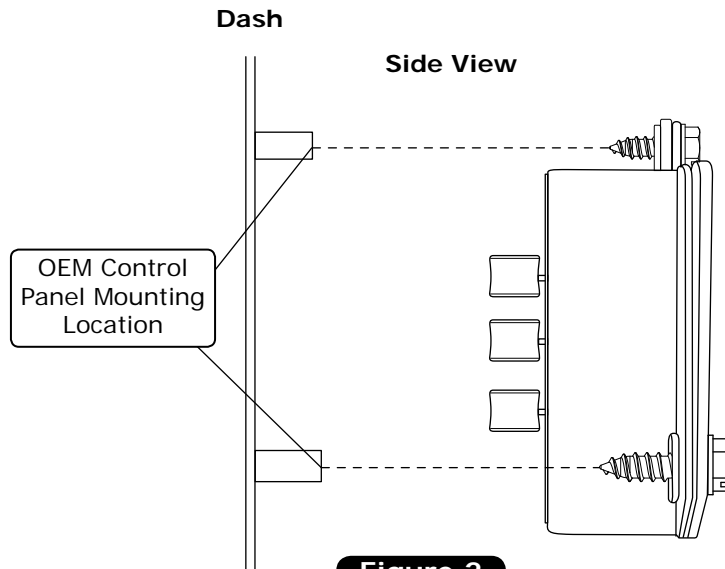

Figure 2
1. Install the control panel assembly into the OEM mounting location. **NOTE: Take care not to scuff the control panel face during installation (See Figure 2, below).**